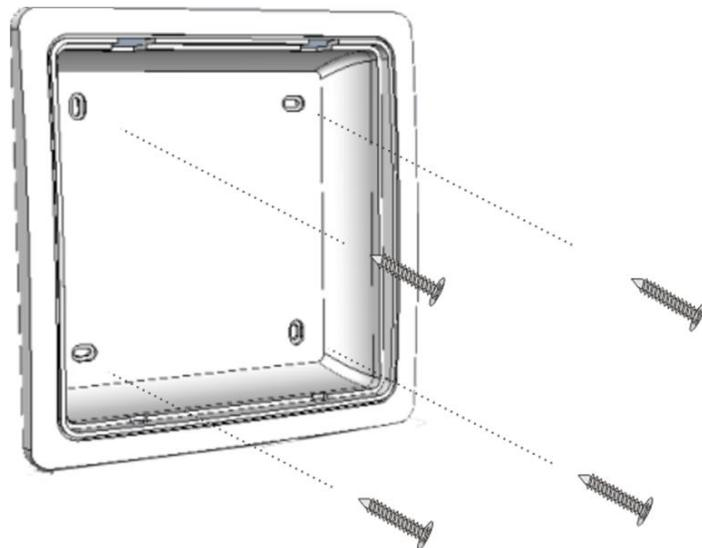

Figure 12: Mounting Screws for Back Casing
5. With a screwdriver, remove the four screw hole punch outs as shown in the Figure 12.